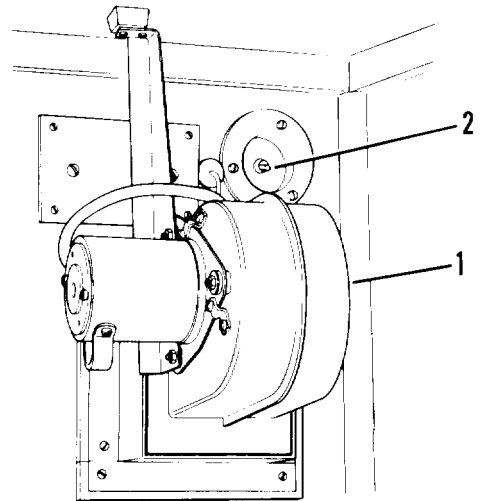

Figure 2-13. 24 volt ventilating fan
- a. The fan (1, figure 2-13) provides ventilation for the van.
- b. Toggle switch (2) above fan controls operation.